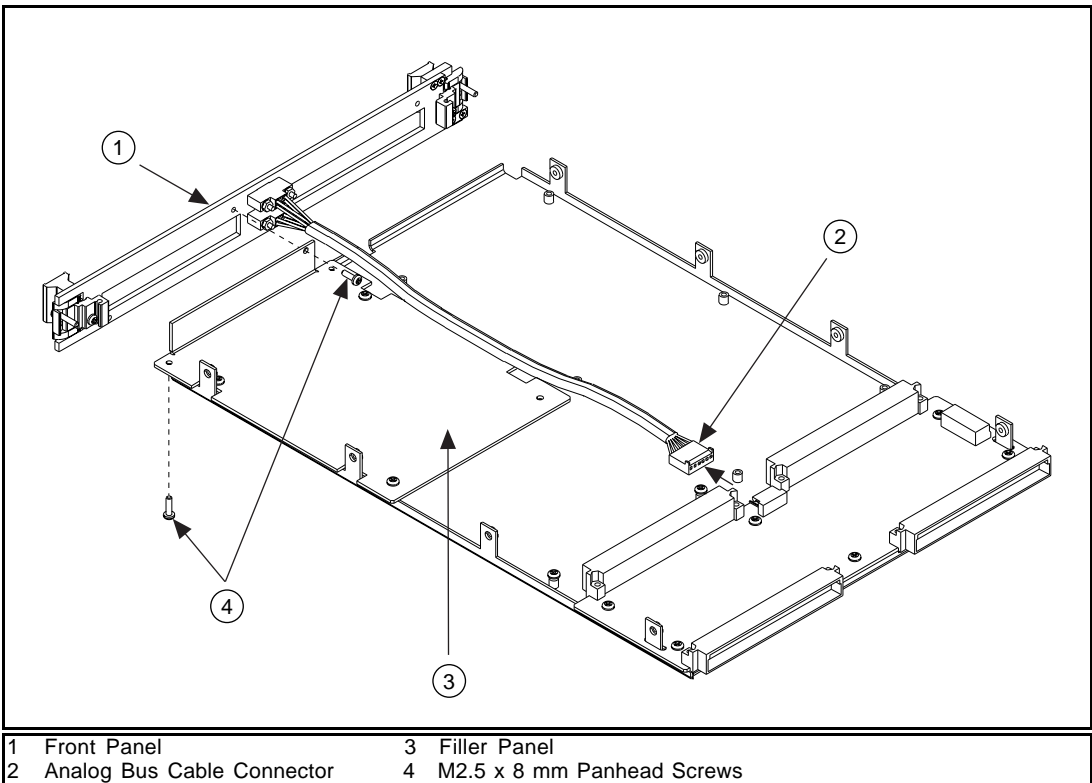

Figure 4. Removing the Front Panel Assembly
2. Remove the front panel/cable assembly, referring to Figure 4 as necessary. Disconnect the analog bus cable connector (item 2) from the rear of the carrier module. Remove the two M2.5 screws (item 4) holding the front panel to the filler panel (item 3). Keep the screws in a safe place; you will need them to complete your assembly.